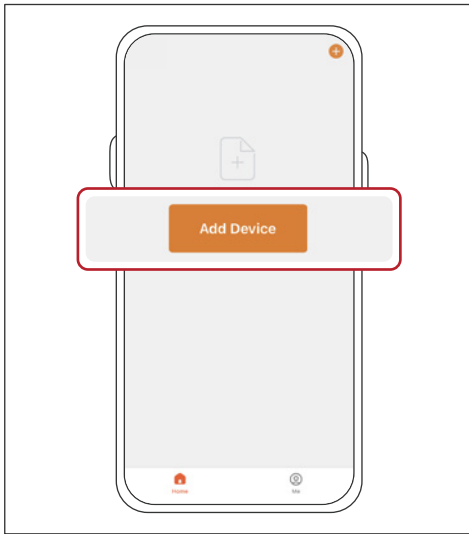

Fig.22
- 5 Click "ADD" to add the generator(see Fig.22).